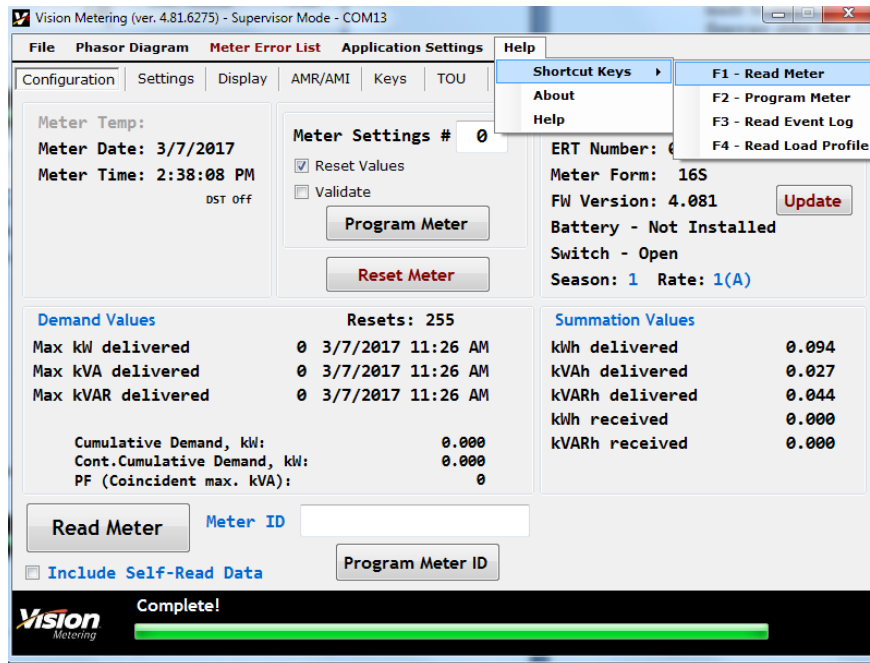

Figure 5
- The **Application Settings** tab allows the selection of *COM port*, *Enable Warnings*, *Change password*, *Radio Not Supported* or *Check Old Protocol Version*. This is shown in **Figure 5**. The Security Key selection is only available when the present key won't provide access to the meter. This selection provides the opportunity to input a different key. Refer to Section 9 for additional information on Security Key Settings.